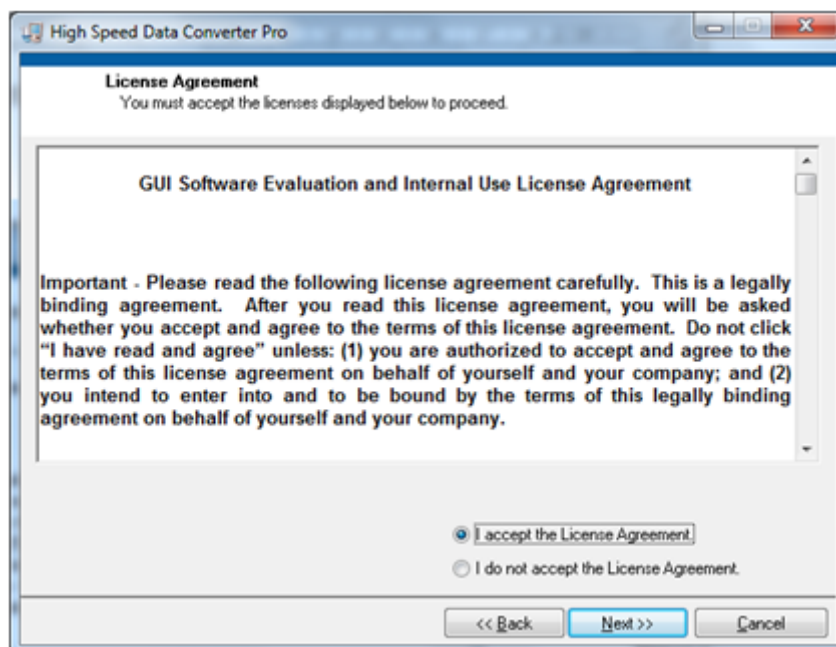

Figure 4. HSDCpro Install (c)
- Read the License Agreement from Texas Instruments and select *I accept the License Agreement* and press the **Next** button as shown in Figure 4.